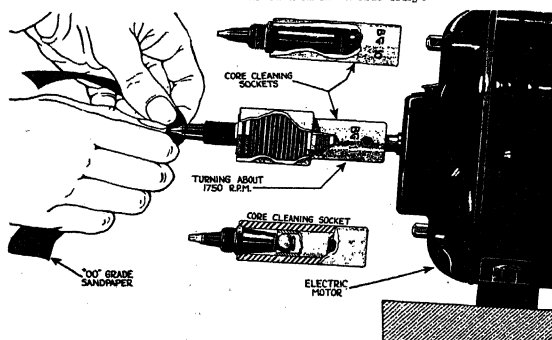

Fig. 8.—Cleaning cores with 00 grade sandpaper.
**Core Cleaning.**—The correct method of cleaning cores is illustrated in Fig. 8. Special collets are used to hold the cores while they are being cleaned. They are designed to be fastened to the shaft of a  $\frac{1}{4}$ -hp. 1,750-r.p.m. motor on a tilted mounting base. The collet holds the core in place without tightening due to the speed of the motor and the fact that the base is tilted. Collet A-10 takes all unfinned shielded plugs. With its